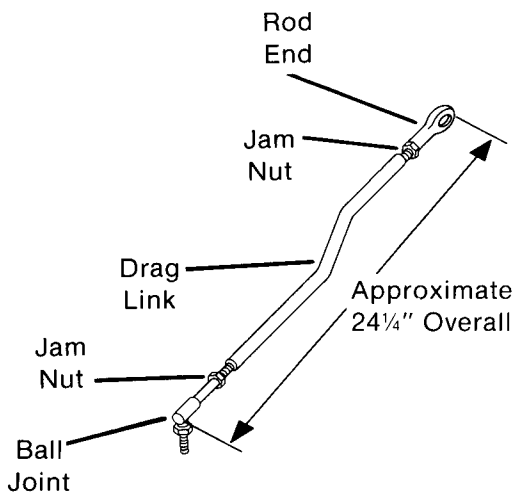

FIG. 25
- D. Reverse above procedures to reassemble drag link between pitman arm and left spindle, but first, set drag link assembly to an approximate 24 $\frac{1}{4}$ " overall length with front ball joint and rear rod end threaded equally onto drag link. (Fig. 25) Then follow the **complete** procedure under "DRAG LINK/TOE-IN ADJUSTMENT" to set the drag link properly.